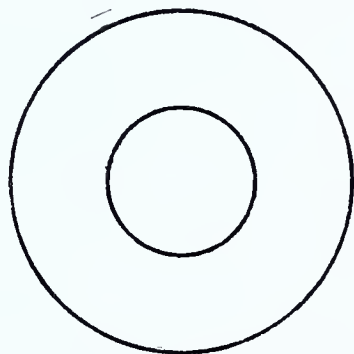

FIG. 238 — *Circular Ring*
**CIRCULAR RING** — Fig. 238. The space (area) enclosed between the circumferences of two concentric (having the same center) circles.